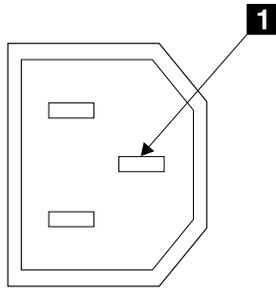

Figure 9. Ground pin (2104 Model TS4)
- c. Check for continuity between the chassis of the 2104 Model TS4 and the ground pin **1** of the power connector on each fan-and-power-supply assembly. See Figure 9.